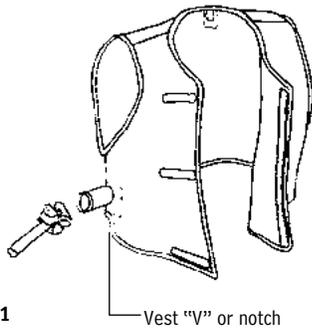

Figure 1
1. Insert the muffler end of the cooling vest connector hose well into the air entry sleeve of the vest (**Figure 1**).